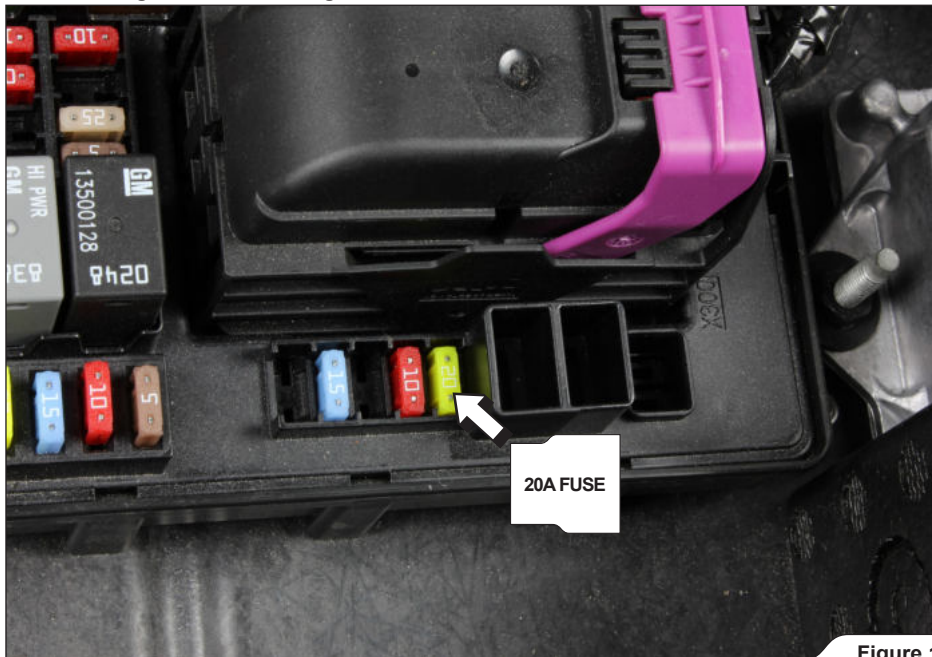

Figure 1
1. Carefully remove the trunk floor mat and trunk trim panels to access the power distribution box. Remove the marked 20A fuse (**Figure 1**).